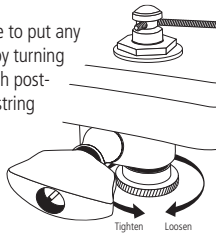

Figure 2: Stringing Locking Tuners with Thumbwheel
**Note:** If you have locking tuners on your guitar (Figure 2), then you don't have to put any winds on the post. Simply cut or loosen the old string and loosen locking pin by turning thumbwheel counter-clockwise. Remove old string and feed new string through post-hole. Tighten thumbwheel clockwise to lock the pin on to the string. Tune the string to pitch without any wraps on the post and cut off excess string. **Note:** Do not remove thumbwheel or use pliers to tighten/loosen locking tuning machines.